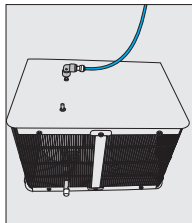
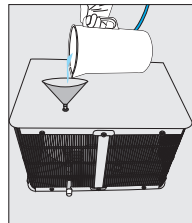

Figure 26
Figure 27
- 1.3 Using the water line removed from the "Water Inlet" (Figure 26), fill the reservoir with a recommended food grade sanitizing solution (Figure 27). (Please note that the solution should not be passed through any filters or associated equipment in the system - these should be disconnected prior to the solution being poured into the system, as per 1.2)